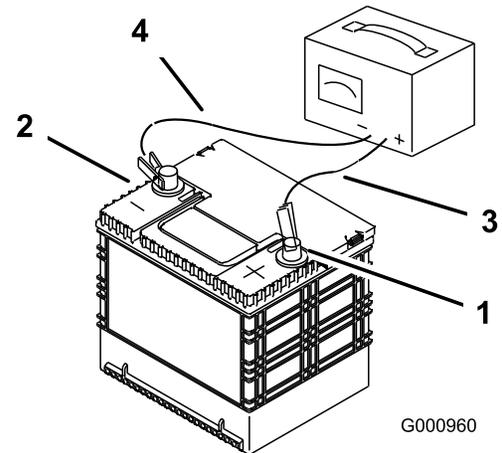

Figure 47
- When the battery is fully charged, unplug the charger from the electrical outlet; then disconnect the charger leads from the battery posts (Figure 47).